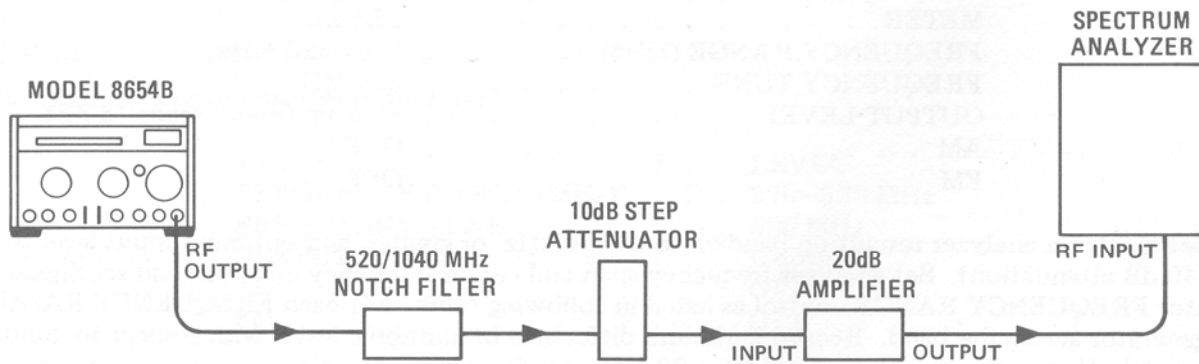

Figure 4-1. Subharmonic and Non-Harmonic Spurious Test Setup
1. Connect equipment as shown in Figure 4-1 after setting Signal Generator controls as follows: